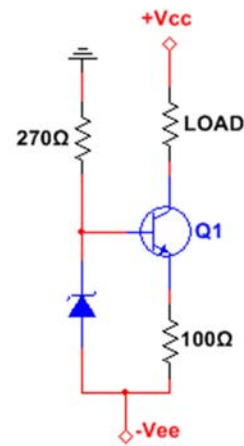

Fig. 4: Problem 6
- 6) A current source can be operated from split supplies (Fig. 4). Assume +/-9V power supplies, a 5.6V zener, and "quick" analysis parameters for Q1.